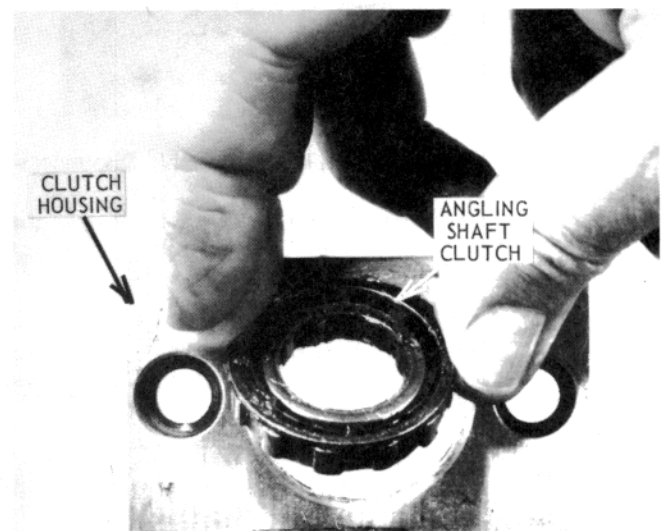

Figure 76 — Angling Shaft Clutch
- 6.1.12 The angling shaft clutch can be removed from its housing for examination or replacement. Replacement is required if the actuating spring has any cracks, if any of the fingers that press against the sprags are broken, or if any of the sprags are broken. The clutch should be lightly oiled and replaced in its housing with the flange up and on the same side of the countersunk housing bore (see Figure 76).